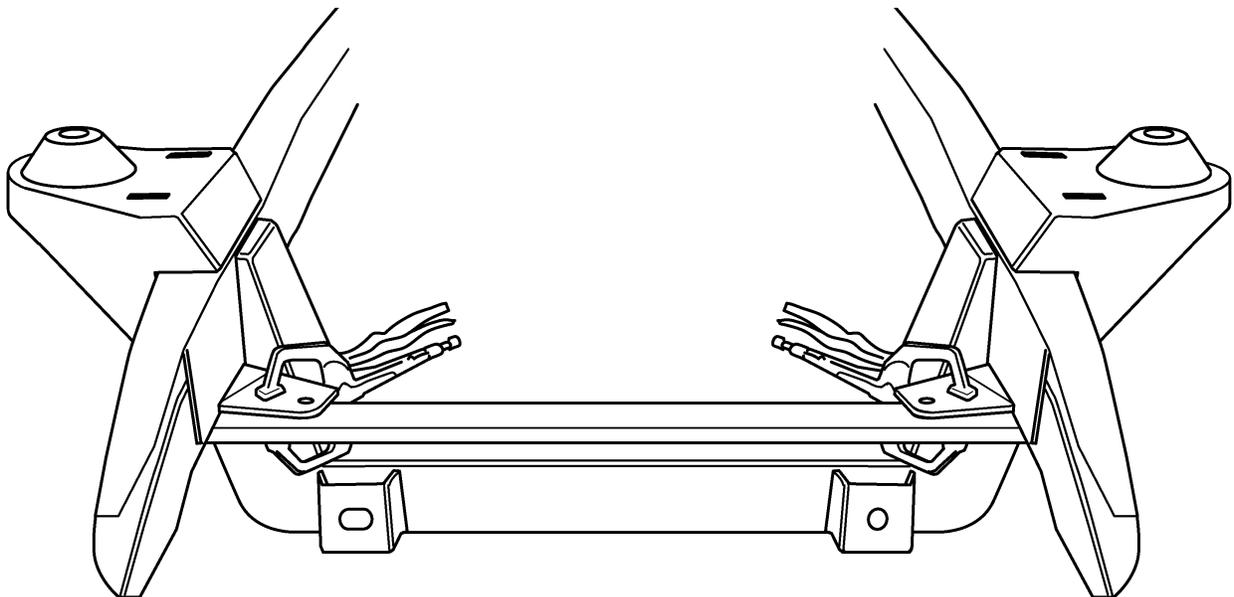

Figure 7
8. The radiator support tabs are next. Clamp the two tabs to a flat bar as shown in Figure 7. They should be spaced so the holes are spaced $19\text{-}3/16"$ apart, center to center. Position the tab and bar assembly up into the frame, so the outer edge of the tab is against the inside bottom edge of the frame. If they fall under the frame, grind the outside edge of the tabs so the edges of the tabs end up inside the bottom inside edge of the frame rail. You will see that the actual radiator mounting surface is tilted back, to give the radiator the correct mounting angle.